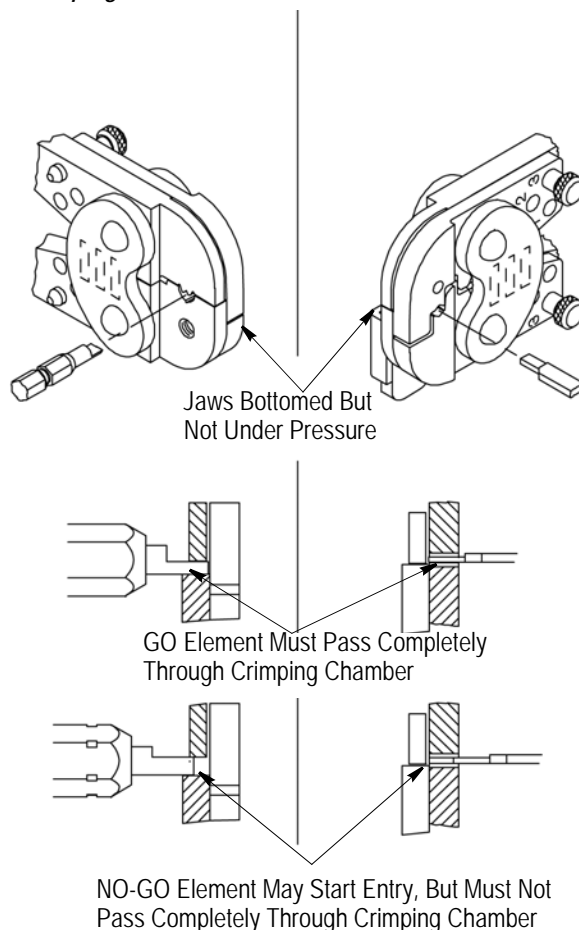

Figure 8
4. Align the GO element with the wire barrel section of the crimping chamber. Push element straight into the crimping chamber without using force. The GO element must pass completely through the crimping chamber. See Figure 8.
5. Align the NO-GO element and try to insert it straight into the same section of the crimping chamber. The NO-GO element may start entry, but must not pass completely through the crimping chamber. See Figure 8.